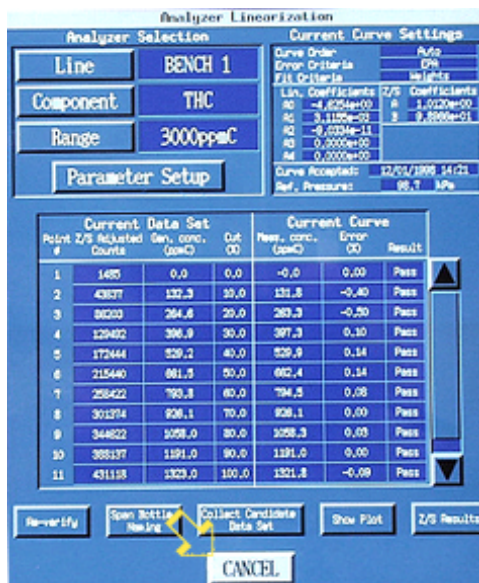

Figure 17
- 122 On the “Analyzer Linearization” menu, click on “Cancel.” See the arrow in Figure 17. Click on “Cancel” again.